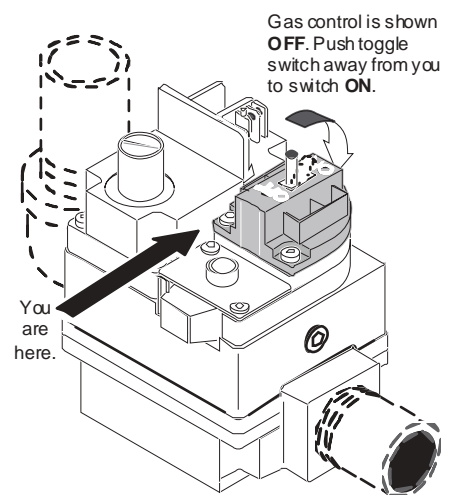

Figure 26.
6. **Toggle-Style Valve:** Pull toggle toward you to turn gas off, see Figure 26.
7. Wait five (5) minutes to clear out any gas. If you then smell gas, **STOP!** Follow “B” in the “Before Start-up” instructions (page 33). If you don't smell gas, go to the next step.
4. **Toggle-Style Valve:** Pull toggle toward you to turn gas off, see Figure 26.